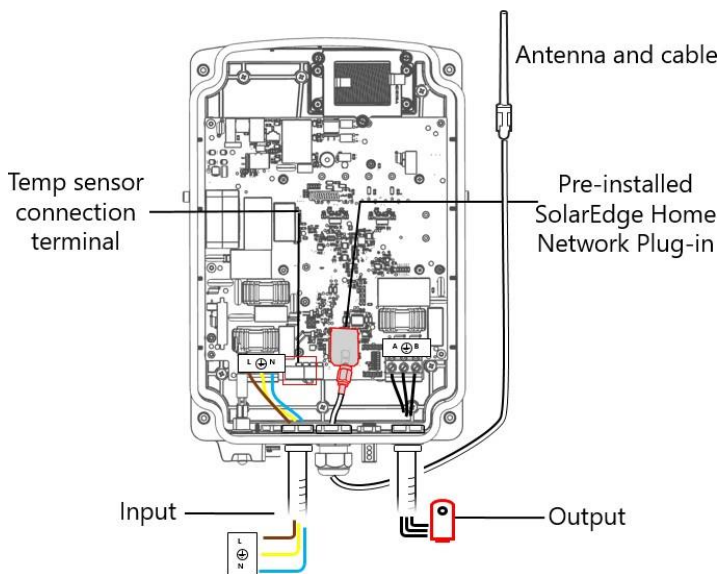

Figure 9: SolarEdge Home Hot Water Controller wire connections
Do not connect the device *output* (labeled A & B) to the grid, as this will damage the product and void the warranty. Connect the AC grid cable to the designated *input* only (see *Figure 9*).
2. Connect AC (to the grid; see *Figure 9*):
3. Connect to the immersion heater (see *Figure 9*):